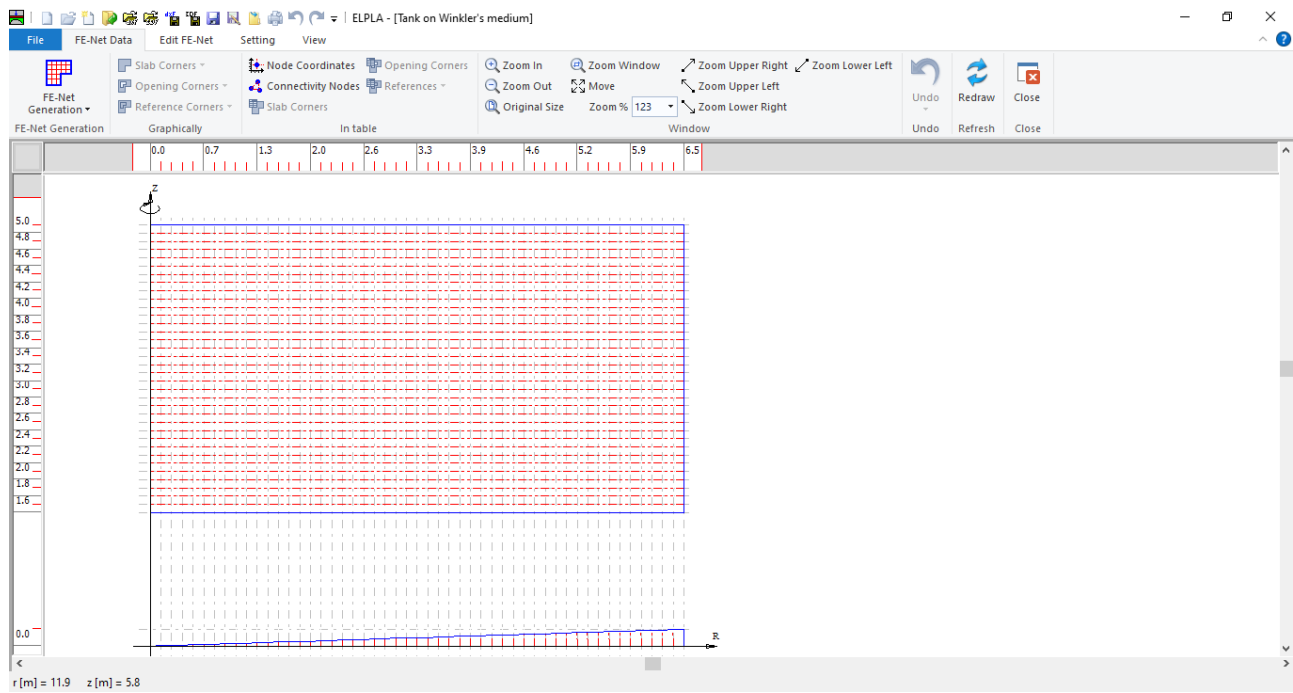

Figure 6.11 Generated FE-Net
Click "Finish" button, the FE-Net of the tank wall and a sector from the base appear in Figure 6.11
- Choose "Save" command from "File" menu in Figure 6.11 to save the data of the FE-Net
- Choose "Close" command from "File" menu in Figure 6.11 to close the "FE-Net" window and return to *ELPLA* main window